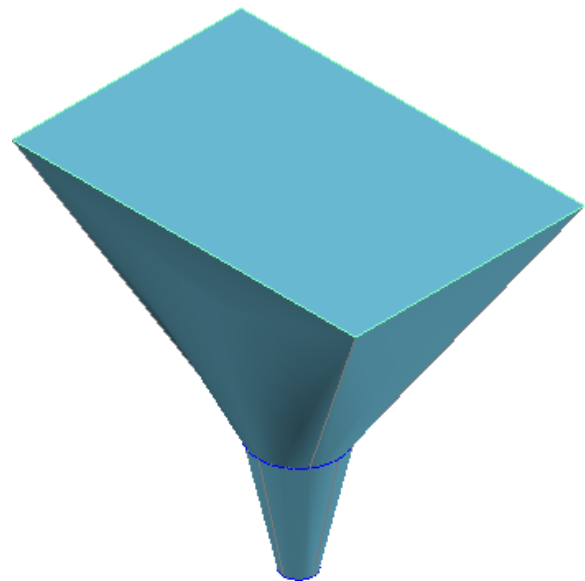

Figure Step 1
Step 1 Open drawing: AutoCAD 3D Lab 24-1. Save and name the drawing with the name: AutoCAD 3D Lab 29-1. (Figure Step 1)